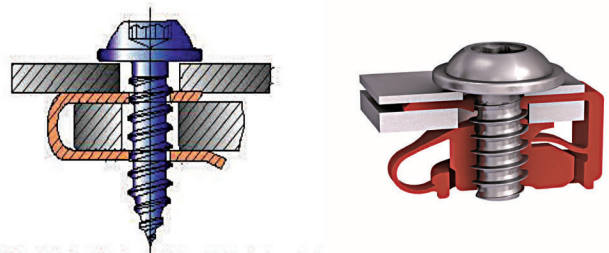

Fig. 4 — Plastic clip-on bosses eliminate sharp points and edges.
- Elimination of sharp points and edges: The plastic clip-on bosses can be designed and molded to have a small counter bore at the top side of the boss portion of the clip to help lead a screw into proper alignment and into the boss. As a result, the screw need not have a sharp point (many metal clip systems use a Type AB or similar sharp pointed screw). This is advantageous from several perspectives: 1. It is easier on the installer as it eliminates finger sticks from the sharp points. 2. It eliminates a safety issue of having sharp pointed screws sticking out the back side of the joint creating the possibility of scratching or cutting anyone working around the part in service or during later assembly operations. 3. It eliminates the risk that these points can snag and fray electrical wiring that runs in close proximity to the screw (see Figure 4).